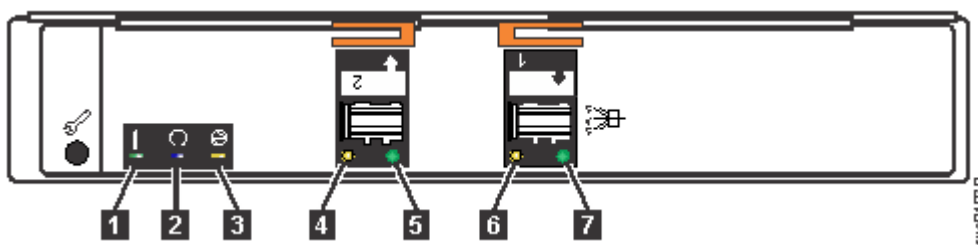

Figure 138. Expansion canister
An expansion canister provides SAS connectivity between the 5U expansion enclosure and control enclosure system. If either of the two expansion canisters has a failure, the other expansion canister assumes the full I/O load. Figure 138 on page 174 shows the features of an expansion enclosure.
3. Release the lower cable management arm to swing it out of the way, as described in Figure 138 on page 174.